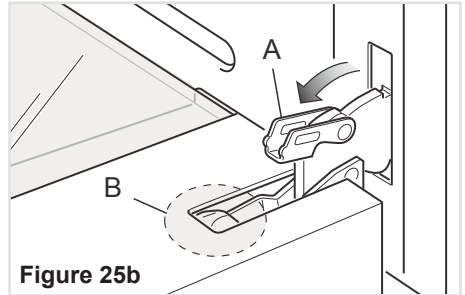

Figure 25b
- Open the lever "A" completely on the left and right hinges (fig. 25b).
- Gently close the door until left and right hinge levers "A" are hooked to part "B" of the door (figs. 25b, 25c).